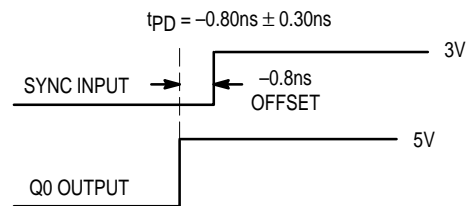

Figure 2. Depiction of the Fixed SYNC to Q0 Offset (t_{PD}) Which Is Present When a 1MΩ Resistor Is Tied to V_{CC} or Ground
- A 1MΩ resistor tied to either Analog V_{CC} or Analog GND, as shown in Figure 2, is required to ensure no jitter is present on the MC88921 outputs. This technique causes a phase offset between the SYNC input and the Q0 output, measured at the pins. The t_{PD} spec describes how this offset varies with process, temperature, and voltage. The specs were arrived at by measuring the phase relationship for the 14 lots described in note 1 while the part was in phase-locked operation. The actual measurements were made with a 10MHz SYNC input (1.0ns edge rate from 0.8V to 2.0V). The phase measurements were made at 1.5V. See Figure 2 for a graphical description.